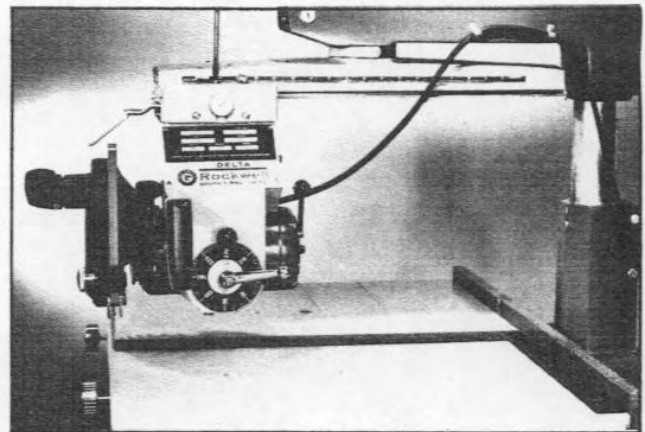

Fig. 24
2. Place a square against the fence, as shown in Fig. 24, and move the cuttinghead until the blade is on the 24" mark on the square. Then lock the cuttinghead in place.